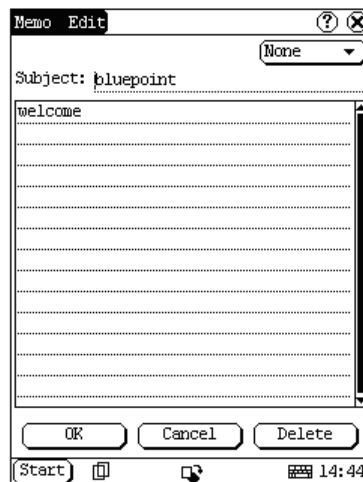

Fig 4-13
- 2) Then you can edit the contents of the memo in the opened Memo Edit interface. See Fig 4-13.